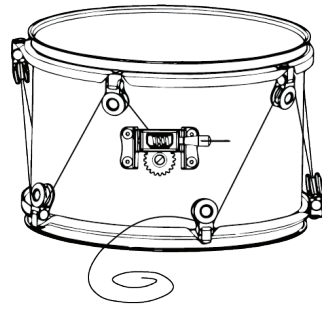

Fig. 3
5. Lace cable through pulley fixtures starting with the closest pulley to the tuning knob, then to the next pulley on the opposing hoop, until you have threaded through all of the pulleys (**Fig. 3**).